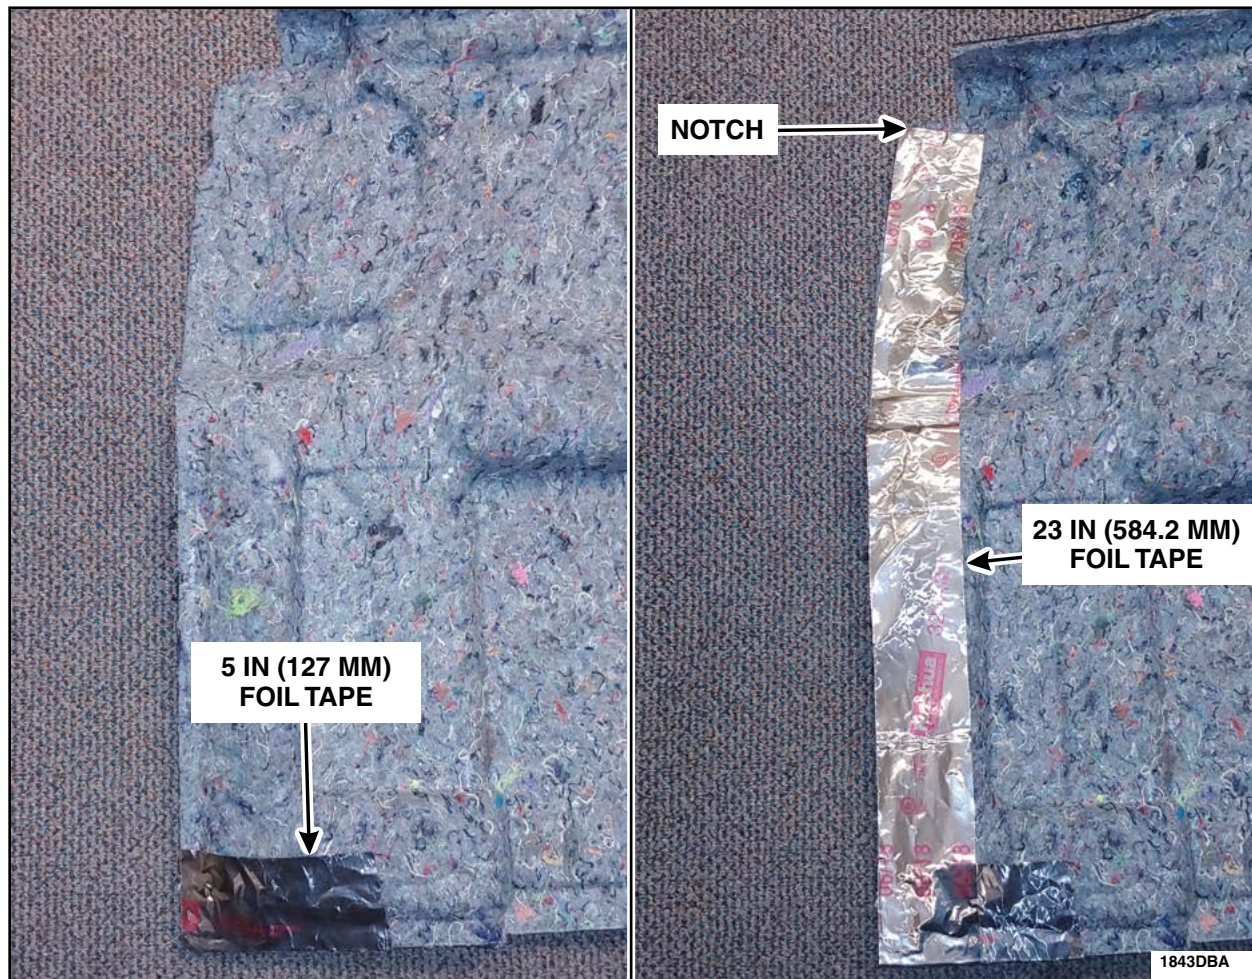

FIGURE 15
2. Remove the paper backing from the 5 in (127 mm) foil tape. Align the edge of the tape with the bottom and outboard edges of the loadspace trim panel. See Figure 15.
3. Remove the paper backing and apply the 23 in (584.2 mm) foil tape to the rear surface of the panel starting at the bottom of the notch at the top outboard corner aligning with the outboard edge of the panel. See Figure 15.